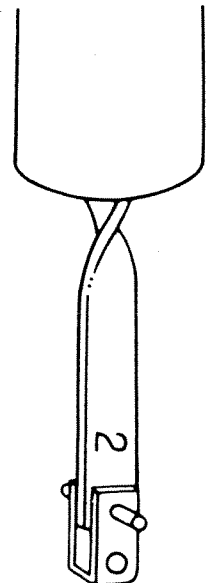

FIG. 7
- 2 It is important that the balances used are suitable for the weight of the sash. They are manufactured in three weight groups and identified by a number 2, 4 or 6 stamped on the spiral rod. (See Fig. 7)